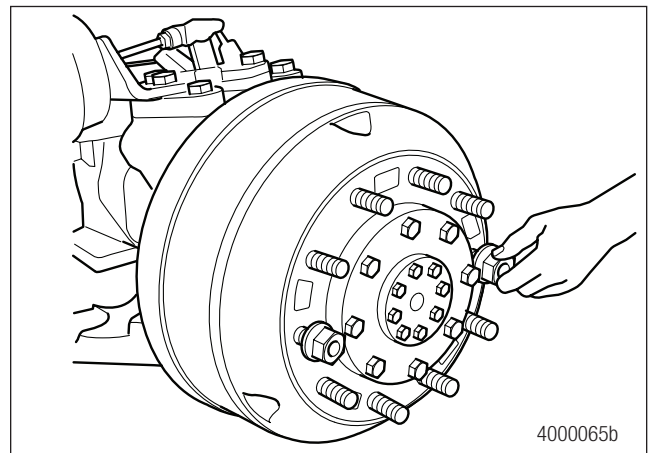

Figure 7.33
9. Install the brake drum. Figure 7.33.